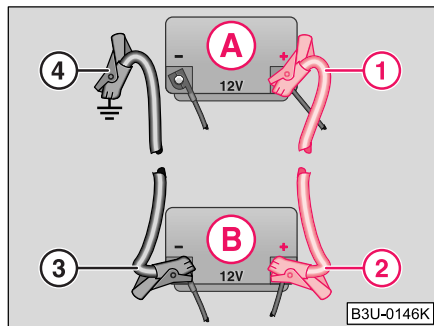

Fig. 147 Jump-starting using the battery from another vehicle: A - flat vehicle battery, B - battery providing current
- Attach one end to the positive terminal ① ⇒ fig. 147 of the discharged battery (A).
- Attach the other end to the positive terminal ② of the battery supplying the power (B).